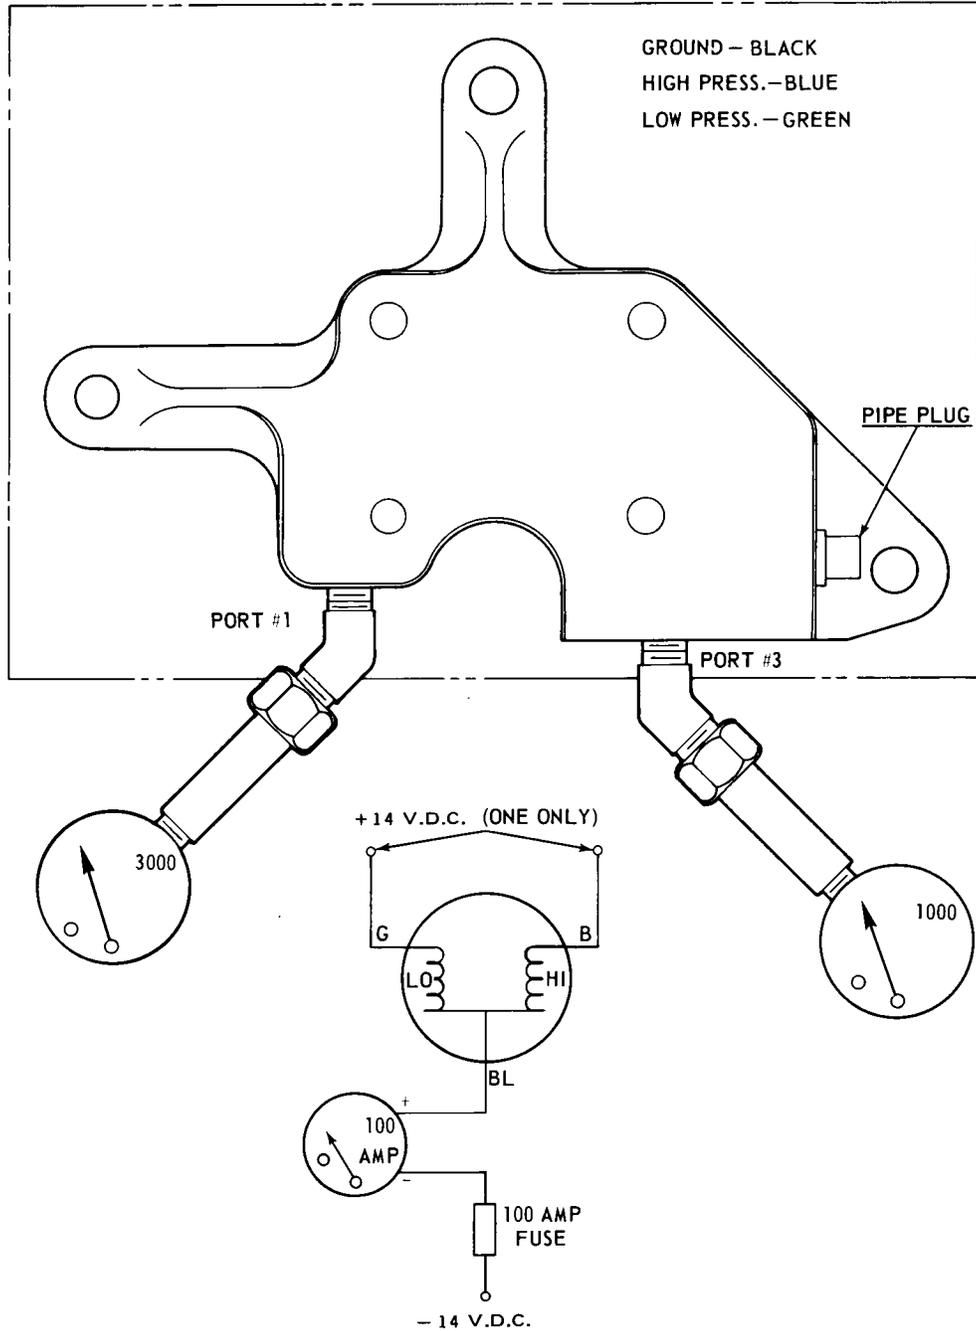

Figure 29-6. Test and Adjustment of Hydraulic Pump
**TEST AND ADJUSTMENT OF HYDRAULIC PUMP.** (Refer to Figure 29-6.)